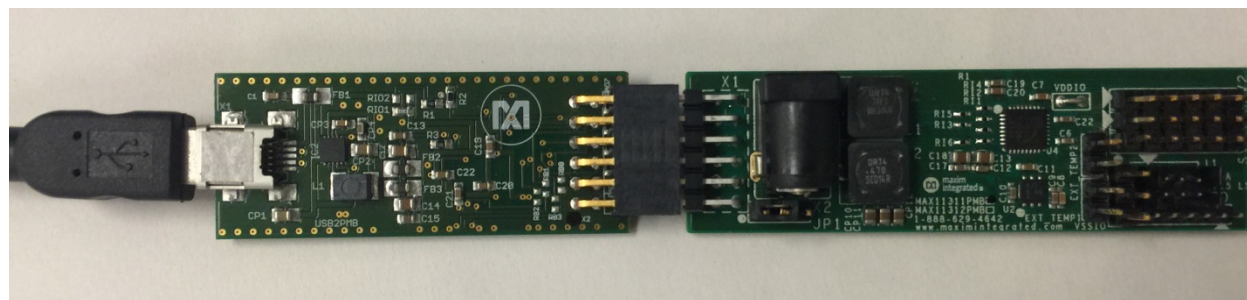

Figure 16. MAX11311PMB1#/Munich connected to PC through a USB cable.
1. Ensure the Munich board is connected to the MAX11311PMB1# board and the USB is connected to a PC through a USB Type A to Mini B Cable as shown in **Figure 16**.